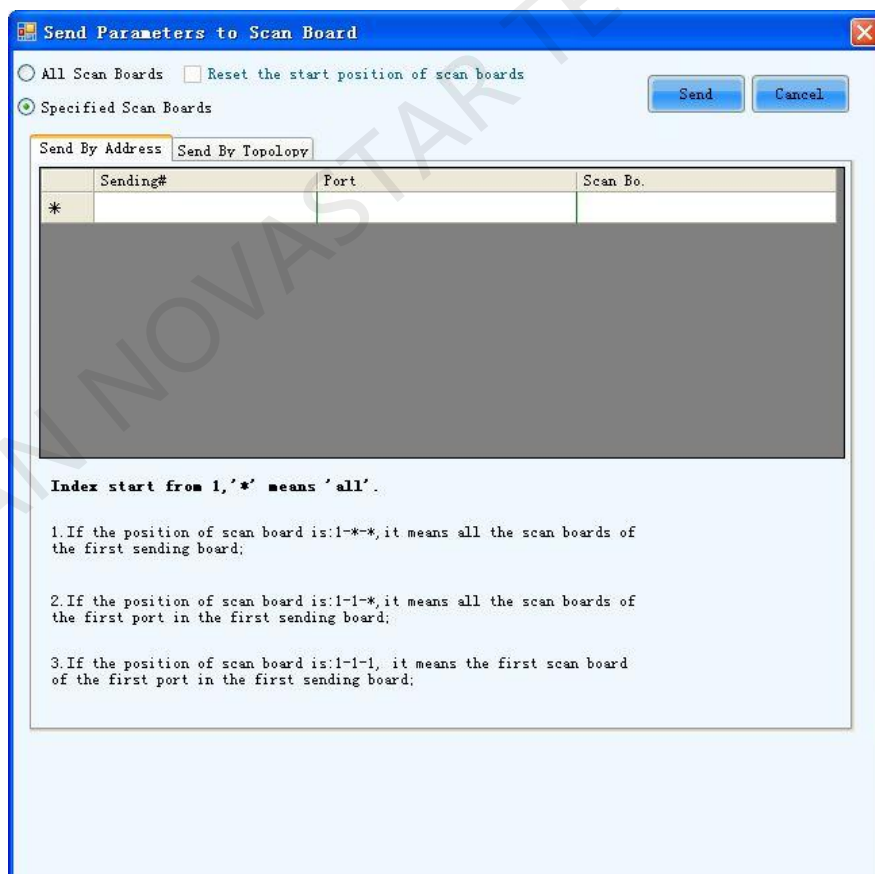

Fig. 5-32 The Send by Address page
This option is for sending parameter settings to specific receiver cards. There are two ways for sending parameter settings to specific receiver cards, by address and by sketch map. Corresponding pages are shown in Fig.5-32 and Fig.5-33.
Shown in Fig.5-32 is the Send by Address page. The Sending#, Port and Scan Bo are used to
2. Ethernet ports of the same sending board can also be set as hot backup of each other. As in Fig.5-32, the Ethernet port 2 is the hot backup of the Ethernet port 1.